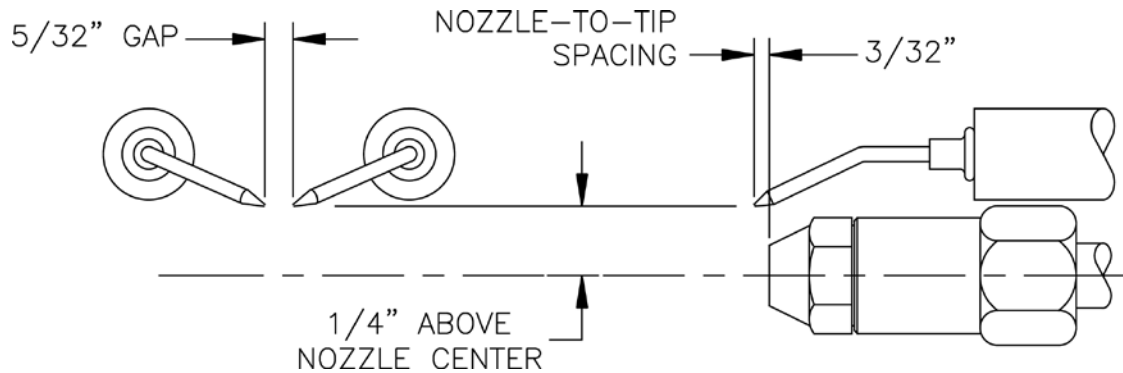

Figure 20A: Electrode Tip Gap & Spacing
- Check electrodes to comply with dimensions shown in Figure 20A. For adjustment, loosen the electrode clamp screw and slide/rotate electrodes as needed. Securely re-tighten the clamp screw when finished.